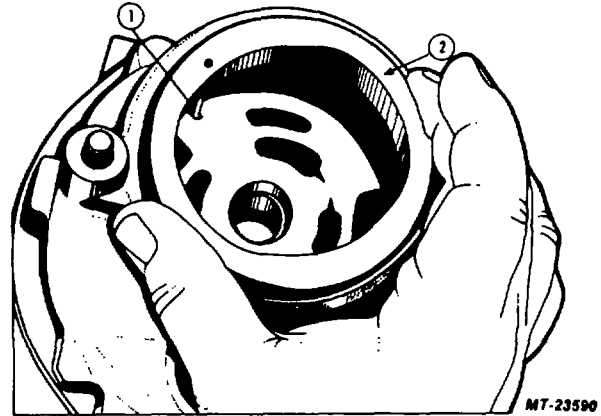

Fig. 31 Installing Cam Ring
4. Install cam ring into the pump housing positioning it over the locating pin, Figure 31. If pump assembly being serviced is equipped with two locating pins, install second pin at this time.